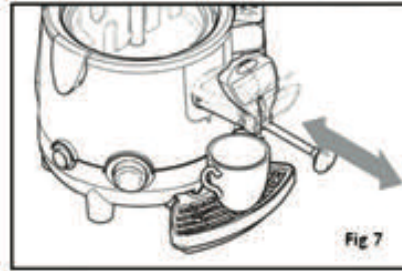

Fig 7
- If the product to be dispensed is especially thick pull the tap Rod out to the maximum position (Fig 7).
- Any clogging in the dispensing line may be removed by sliding the tap rod back and forth (Fig 7).